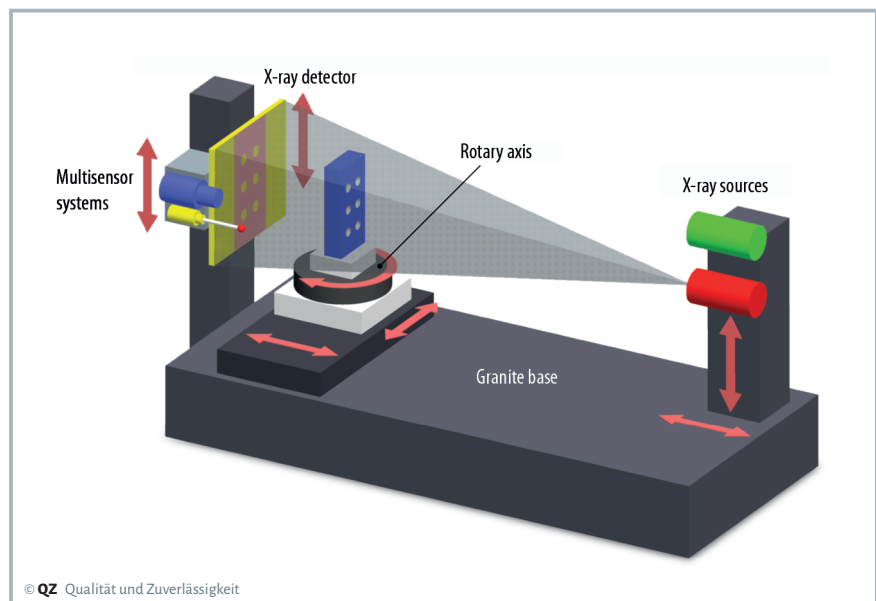

Figure 1. Structure of a coordinate measuring machine with computed tomography (Source: Werth Messtechnik)
**IN COORDINATE** measuring machines with computed tomography (CT), the workpiece is positioned between the X-ray source and the detector (Figure 1). Rotation of the workpiece allows 2D radiographic images to be recorded from various different directions. The X-ray radiation is attenuated, depending on the material and radiographic length. A mathematical method is applied to the radiographic images to reconstruct a 3D model of the workpiece. This model is composed of three-dimensional voxels (volume pixels) and is therefore also referred to as the voxel volume.
The detector and the X-ray source have a critical influence on the structural resolution. The size of the detector limits the size of the measurement range for measurements „in the image“, as the entire workpiece must fit into the cone beam between the focal spot of the X-ray source and the detector (Figure 1). The size and number of pixels (resolution) of the detector determines how finely the workpiece or the capture portion of the workpiece is resolved by the 3D voxel raster.